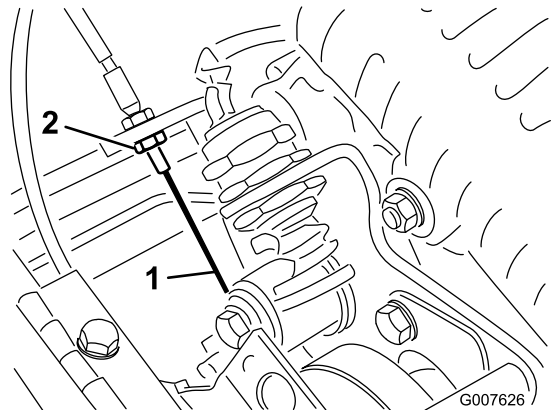

Figure 32
3. To increase the cable tension, loosen the front cable jam nut and tighten the back cable jam nut (Figure 32) until a force of 3 to 5 lb (1.5 to 2.3 kg) is required to engage the traction control. Measure the force at the control knob.